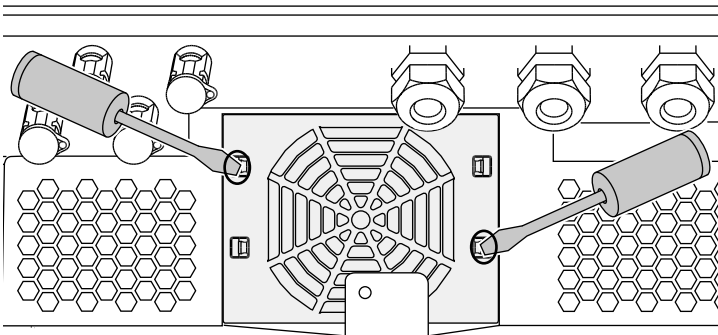

Fig. 71: Loosen fastening straps
3. Press the fastening straps toward the centre of the fan with a second screwdriver. Pull the fan unit slightly forward. ↗ **Fig. 71**